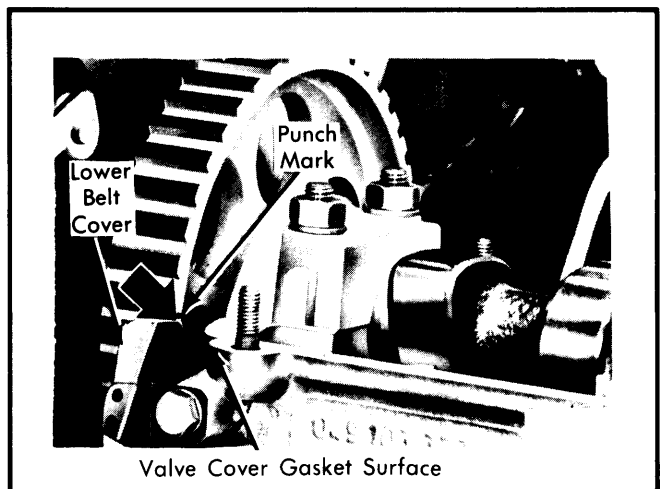

Fig. 3 Camshaft Drive Sprocket Timing Mark Alignment
1) Turn camshaft sprocket until punch mark on rear of camshaft sprocket is aligned with upper edge of lower drive belt cover (arrow) or valve cover gasket on left side of engine. See Fig. 3.